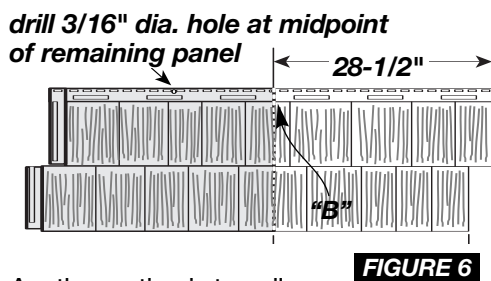

FIGURE 6
- 7) Cut 28-1/2" off of the right side of the D7 panel at indicator "B," which is located above the nail slots, cutting straight through the panel (figure 6). Drill a 3/16" hole in the center of the nail hem and nail the siding through this hole to control the direction of expansion and contraction. Another option is to nail each end of a nail slot located at the center of the panel.